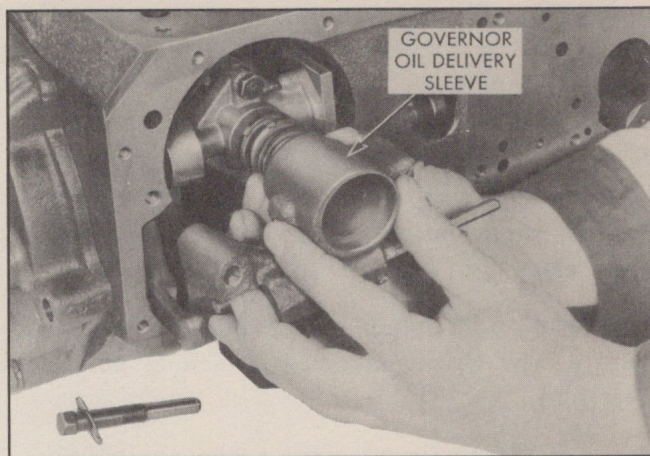

Fig. 309—Installing Parking Brake Bracket Assembly
3. Place the chamfered side of the oil delivery sleeve over end of governor and press gently on, guiding rings into the oil delivery sleeve (Fig. 309).